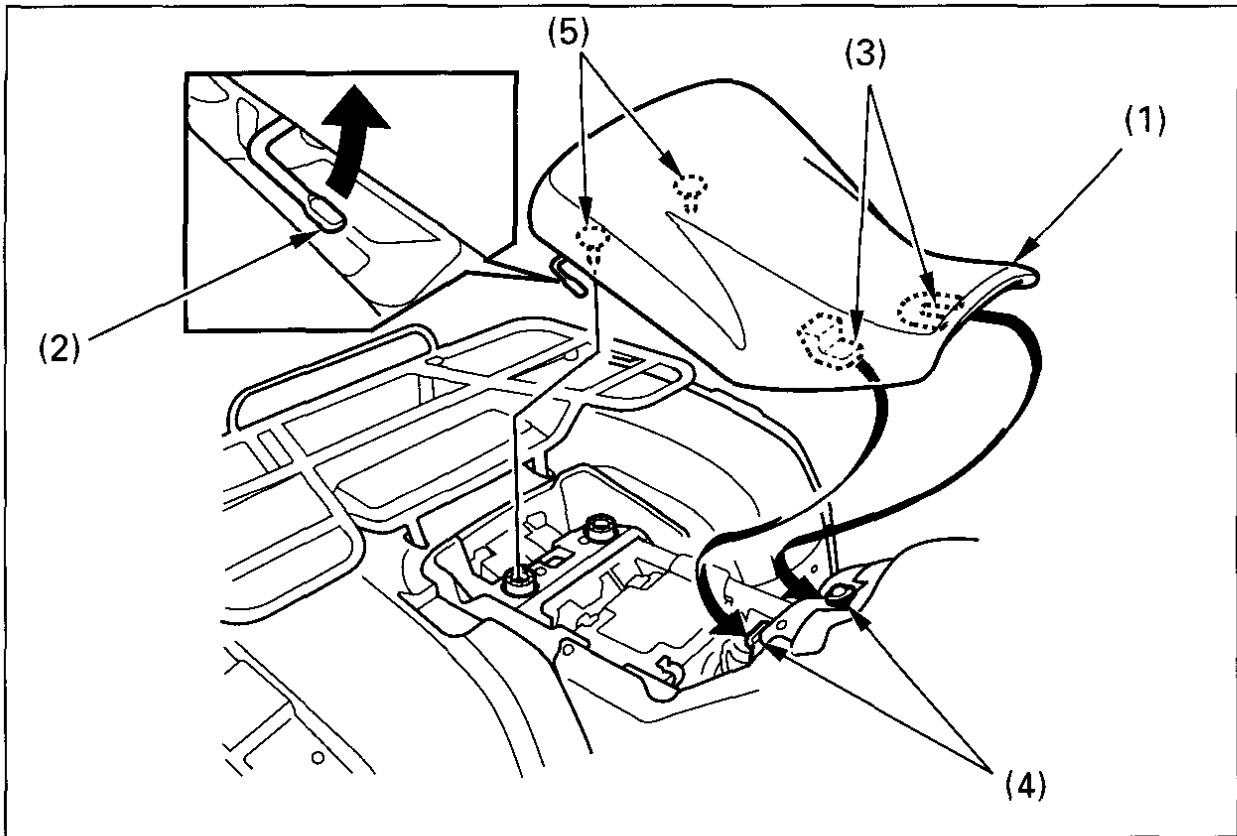

Fig. 4-37
To remove the seat (Fig. 4-37), pull up the seat lock lever (2) at the right side of the seat and lift it up.